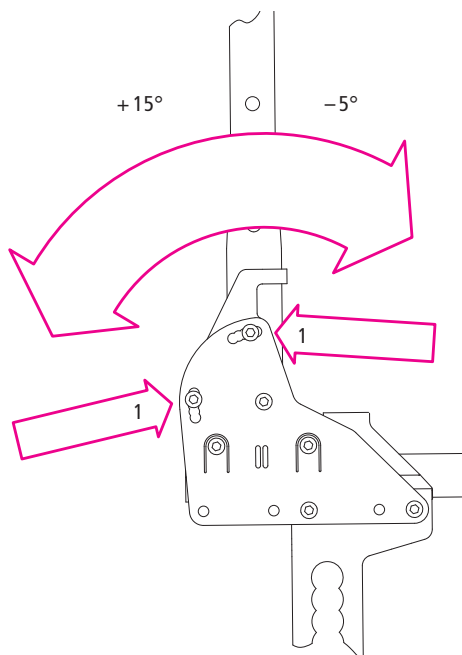

Fig. 45
1. Loosen the two screws (1, Fig. 45) and remove them completely.